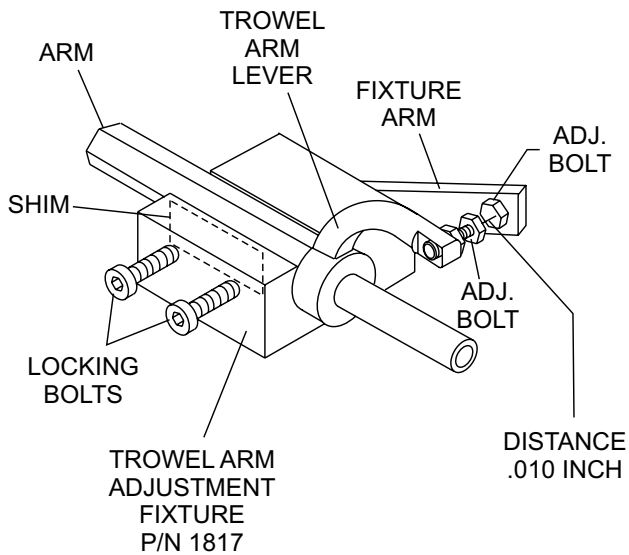

Figure 46. Trowel Arm Adjustment Fixture Components
- Unscrew the locking bolts on the adjustment tool and place the trowel arm into the fixture channel as shown in Figure 46. A thin shim may be required to cover the blade holes on the trowel arm. Make sure to align the trowel adjustment bolt with the fixture adjustment bolt.